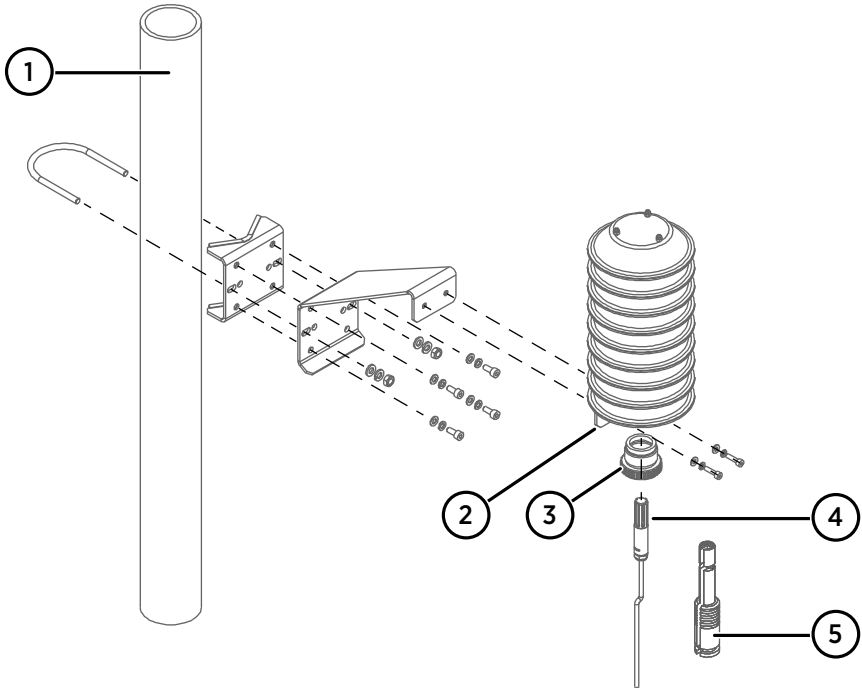

Figure 16 Mounting DTR502B on a pole mast
- 1. Mount the solar radiation shield in the measurement location using the provided mounting accessories, screws, and washers. You can mount the radiation shield to a pole mast as shown in Figure 16 \(page 29\), or to a horizontal beam directly from its support plate.